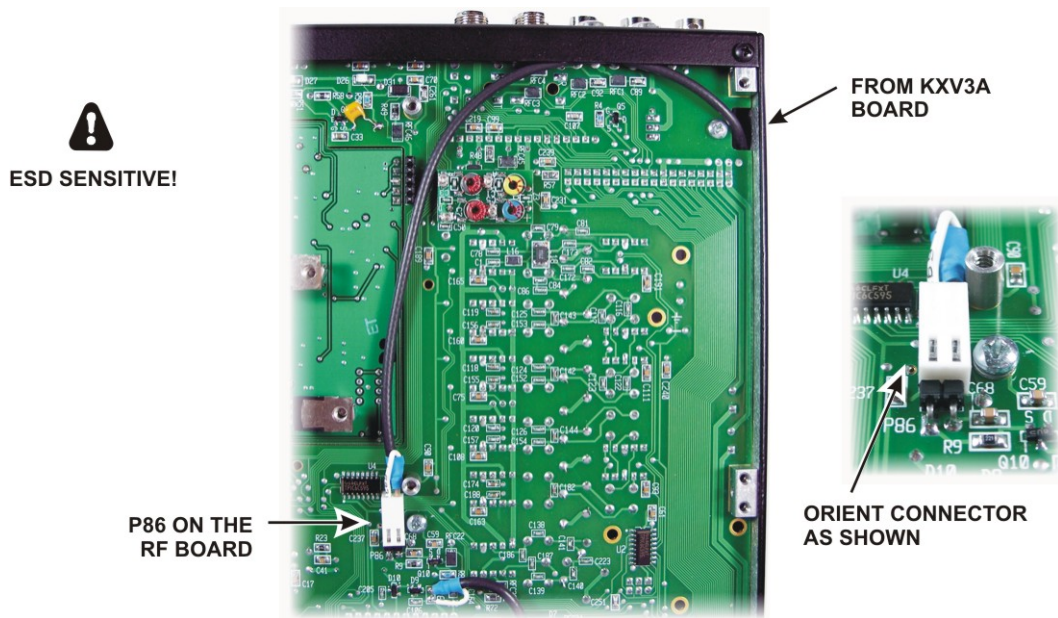

Figure 11. Routing KXV3A Cable to P86.
□ Route the coaxial cable from the KXV3A board to connector P86 on the bottom of the RF board as shown in Figure 11. Mate the connector to P86 as shown. If the connector does not appear to fit, check to make sure there are no plastic ridges on the side toward the RF board (see Figure 7).